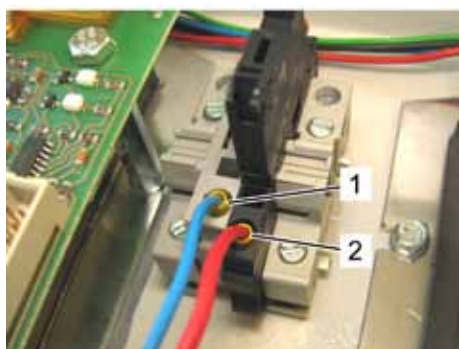

Fig. 76: Connection with 24 V DC
1. Connect the conductors of the power supply according to Fig. 76. For details refer to the respective terminal diagrams.